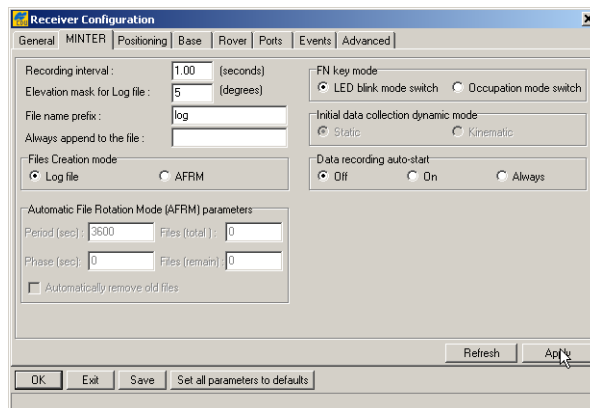

Figure 2-16. Receiver Configuration – MINTER Tab
3. Click **Configuration** ► **Receiver** then click the **MINTER** tab, set the following parameters and click **Apply** (Figure 2-16 on page 2-20). See the following pages for descriptions of these parameters: